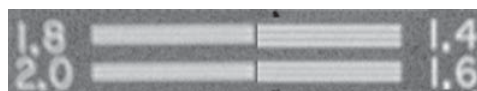

Figure 2. Spatial Resolution: the 1.4 and 1.6 line-pair/mm targets are resolved. The 1.8 and 2.0 targets are not resolved.
- Spatial resolution: A standard bar pattern insert is included in the central test plate. The test plate is placed with the bars at 45° to the video lines or digital image matrix. This produces the smallest change in the moiré pattern, resulting from a small change in angle. See Figures 2 and 3.